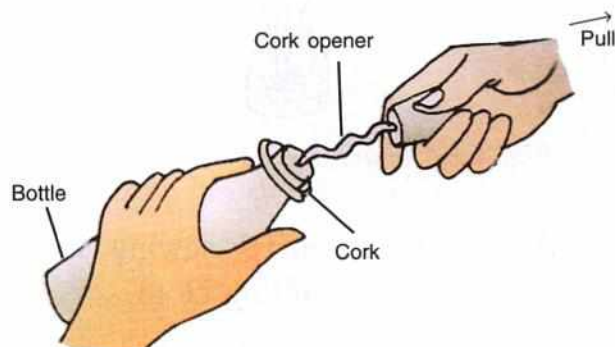

Fig. 4.3 Opening a tightly fitted cork from a bottle using a cork opener
3. It is difficult to remove a tightly fitted cork from a bottle. But if you use a cork opener and insert its tip in the cork and then pull it as shown in Fig. 4.3, the cork easily comes out of the bottle.